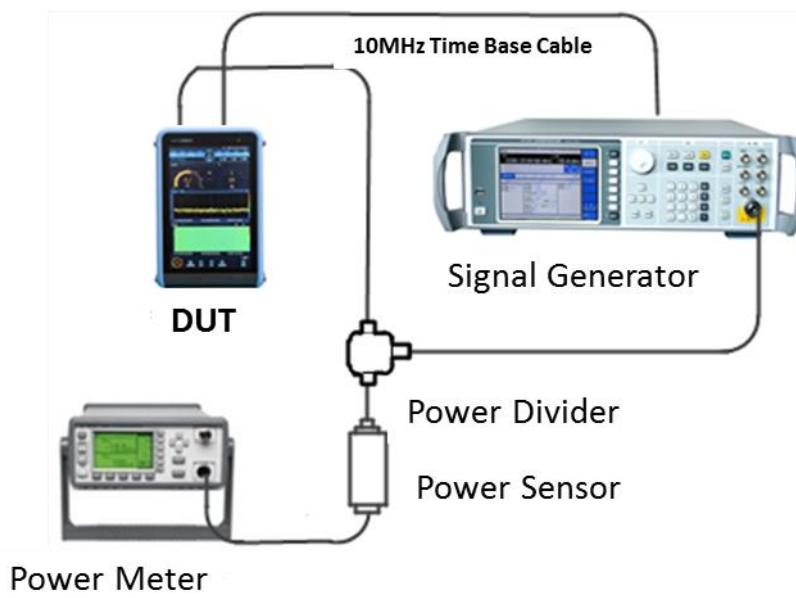

Fig. 8.12 Schematic diagram of the test for mirror frequency suppression (2 IF)
1) Connect the test equipment as shown in Figure 8.12.